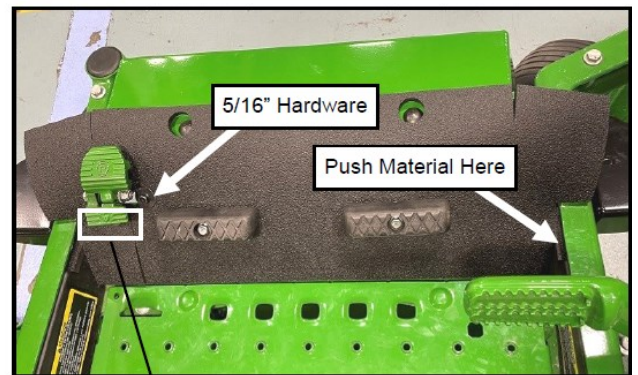

Fig. 1.24a (Install Footrest Lip Floormat)
1.24 Place the footrest lip floormat on the vehicle. Place floormat material found on the lower right and left into the sides of the vehicle frame. Install 5/16" hardware into square hole to the right of the pedal. Next, install 3/8" hardware below the pedal making sure 3/8" washers are wedged between the vehicle and clipped washer. Re-install the vehicle footrests. Now fully tighten hardware. See Figures 1.24a and 1.24b.